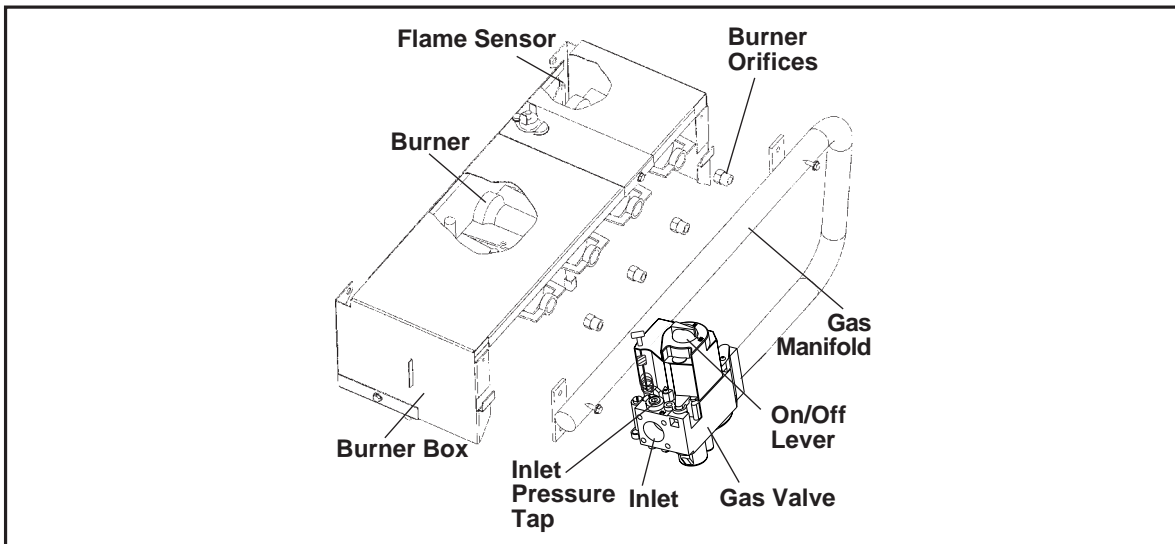

Figure 1. Typical Non-Sealed Burner Box
1. Remove the fasteners that secure the gas manifold to the burner box, as shown in Figures 1 and 2. Carefully remove the gas manifold assembly from the burner box. Note that the gas manifold assembly consists of the gas valve, the gas manifold, and the orifices.
2. Carefully remove the burner orifices from the gas manifold, as shown in Figures 1 and 2.